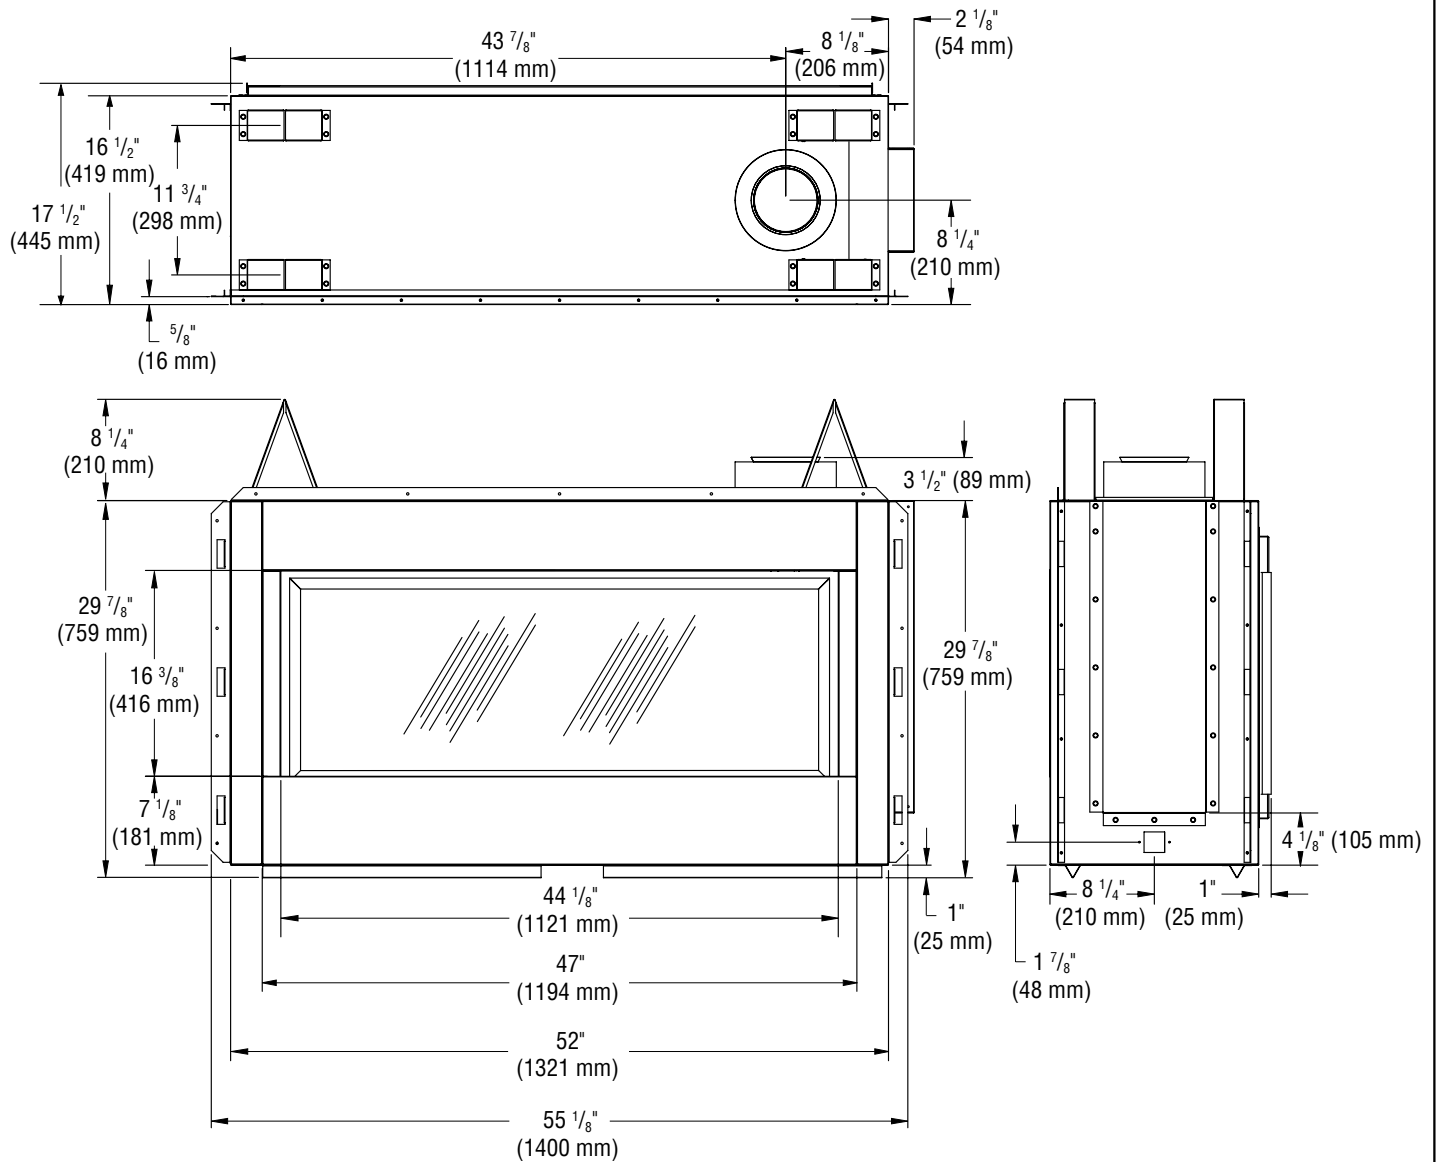

Figure 6 - DRL4543 Fireplace Series Dimensions
- If your fireplace is to be installed directly on carpeting, vinyl tile or any combustible material other than wood, it must be installed on a metal or wood panel extending the full width and depth of the fireplace (see **Figure 6, Page 11**).
*Please refer to overall fireplace width (**Figure 6, Page 11**) before rough framing construction.